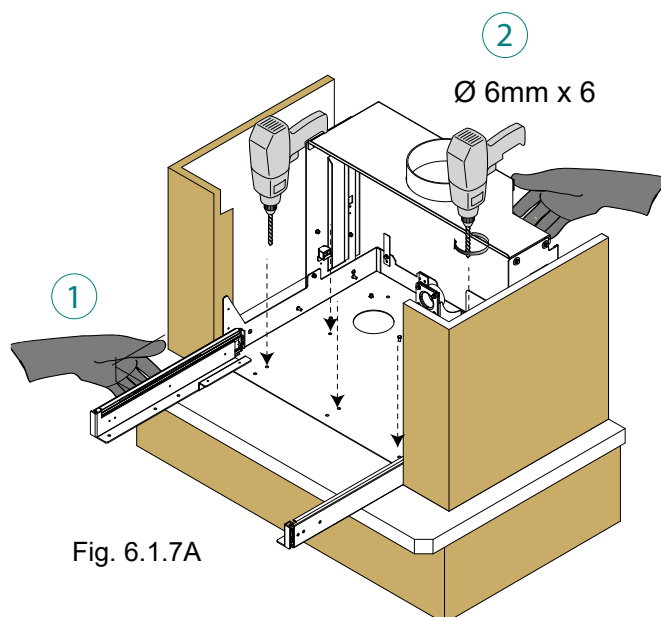

Fig. 6.1.7A
12. Rest the base on the floor of the chimney (1), trace and make 4 holes (diameter 6) for fixing (2) - use the base itself as a template - then drill the holes with a bit with a diameter of 6 mm (Fig. 6.1.7A)